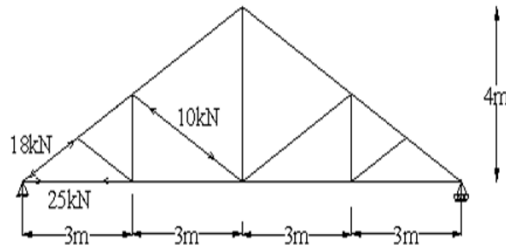

Figure 1
6. (a) Design the members of a roof truss shown in Figure 1 for the factored forces indicated. [7M]
- (b) Design the connection at left support and sketch the details. All the forces indicated are factored load as shown in Figure 1. [7M]